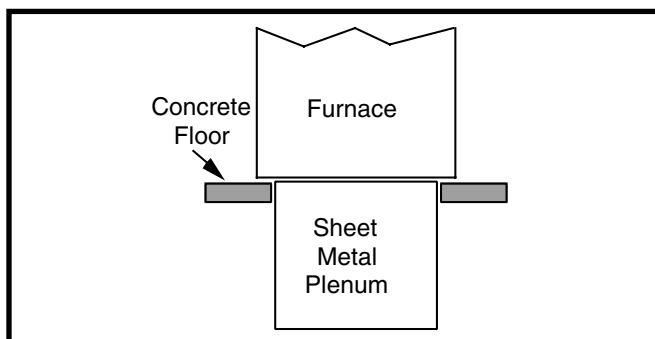

Figure 9. Furnace on a Concrete Slab
2. Position the plenum and the furnace as shown in Figure 9.